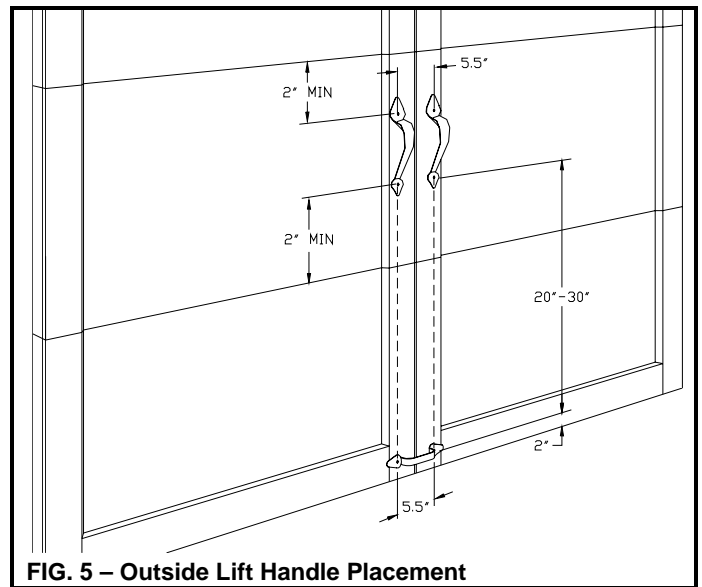

FIG. 5 – Outside Lift Handle Placement
**Step 1:** Center the horizontal ornamental lift handle horizontally on the outside of the bottom door section. Using the handle as a template, mark the holes to be drilled. The holes must be located exactly 2" from the bottom of the section (See Fig. 5).
**Step 6:** Take the two vertical ornamental handles and position on the 2nd section. Using the handles as a template, mark the holes to be drilled. With the sections stacked, the lower hole on each vertical handle must lie between 20" and 30" vertically from the holes on the bottom handle. The holes on each vertical handle should be centered 5-1/2" horizontally from each other. The holes on both vertical handles should line exactly with the holes on the bottom horizontal handle. No hole may be closer than 2" to the top or bottom of the section (See Fig. 5).